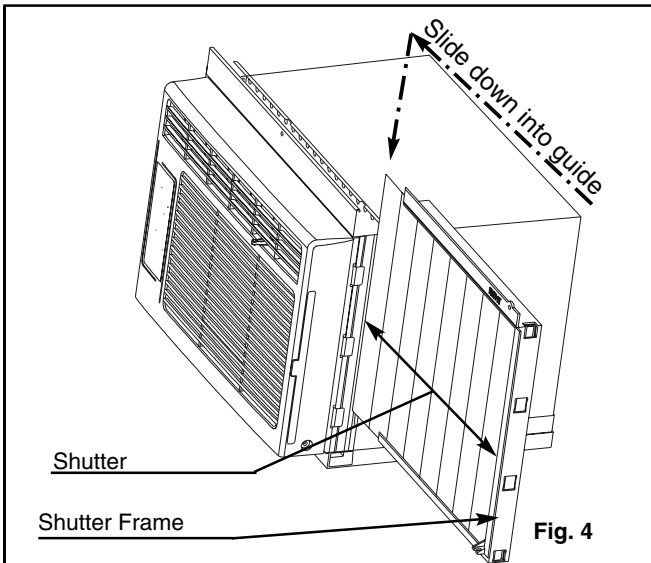

Fig. 4
- Extend the shutter from the shutter frame and slide it into the shutter guide on the side channel of the air conditioner as shown in Fig. 4.